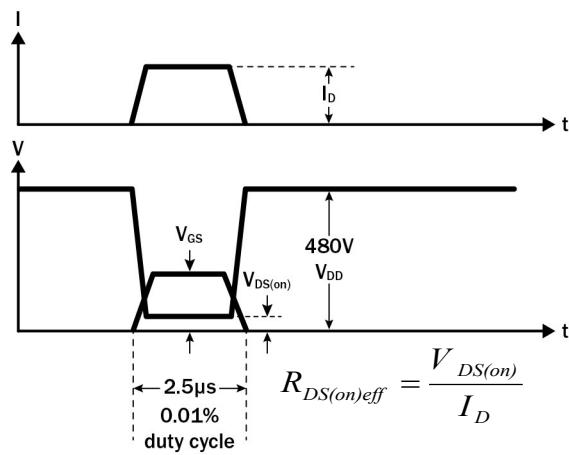

Figure 19. Dynamic $R_{DS(on)eff}$ Waveform
- a. Dynamic $R_{\text{DS}(\text{on})}$ value; see Figures 19 and 20 for conditions